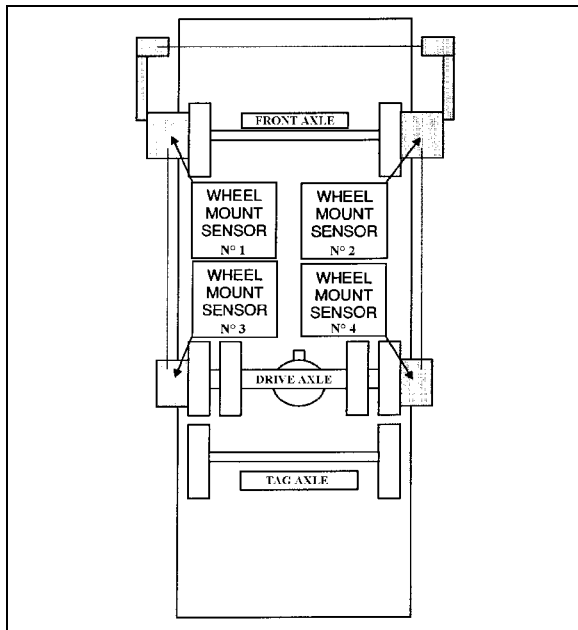

FIGURE 7: FRONT & DRIVE AXLE ALIGNMENT 11025
3. Install wheel mount sensors on front and drive axles (fig. 7). Adjust front axle according to appropriate specifications chart below.
Note: See reference numbers on wheel mount sensors (fig. 7).
- ◆ With the system installed as for front axle alignment (fig.7), adjust drive axle according to specifications' chart below.